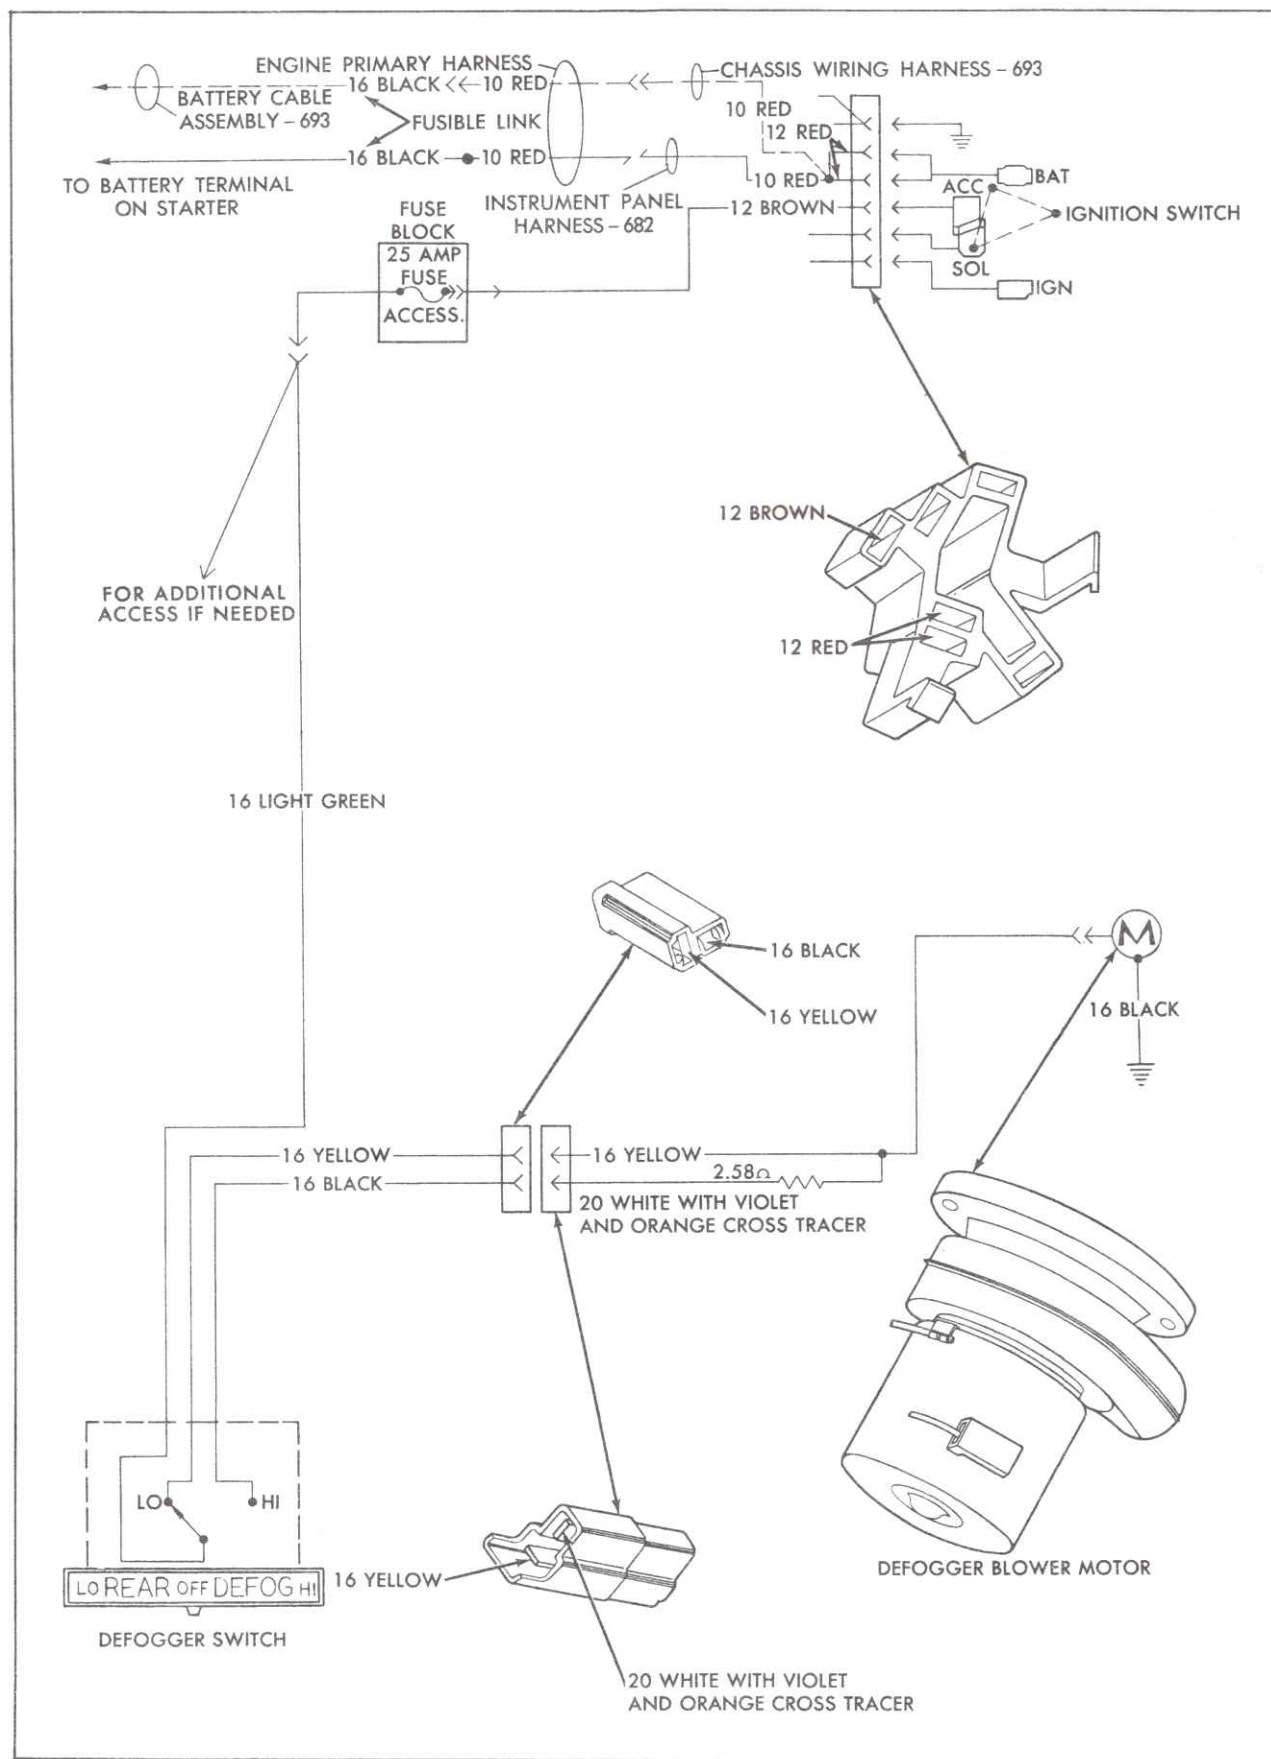

Fig. 15-42 Rear Window De-Fogger Circuit Diagram
The switch for controlling the Rear Window De-Fogger is located in the instrument panel cluster bezel. When the switch is in the center position, the de-fogger is OFF. Moving the switch to the right provides HIGH blower speed, and to the left LOW blower speed. The wiring diagram for the Rear Window De-Fogger is illustrated in Fig. 15-42.
3. Low and high speeds in the rear window De-Fogger are provided by a resistance type and ordinary wire in the wiring assembly, Fig. 15-42.